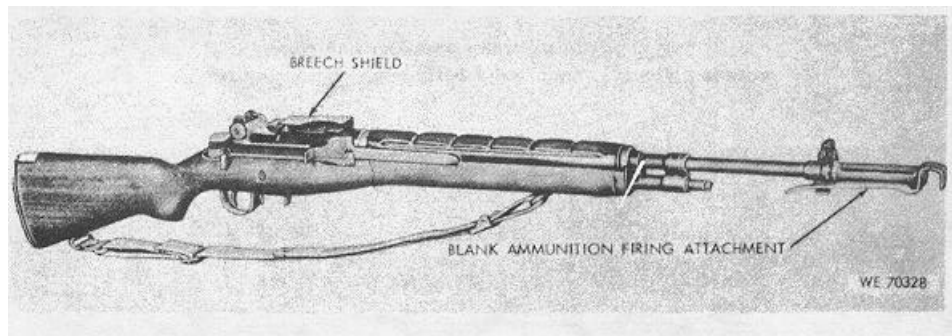

Figure 1-6. 7.62-MM Rifle M14, Blank Ammunition Firing Attachment M12 and Breech Shield M3.
b. The blank ammunition firing attachment (fig. 1-6) consists of the M12 Attachment and the M3 Breech Shield. It is used to fire blank ammunition. The tubular portion of the blank firing attachment is inserted into the muzzle opening of the flash suppressor. The firing attachment is secured by the bayonet lug and a spring clip latch. The shield is secured to the cartridge guide by a guide lug with a spring plunger.